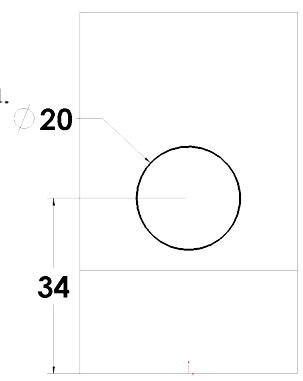

**Fig. 9**
Step 7. **Ctrl click centerpoint of circle and Origin** to select both, **Fig. 9**.